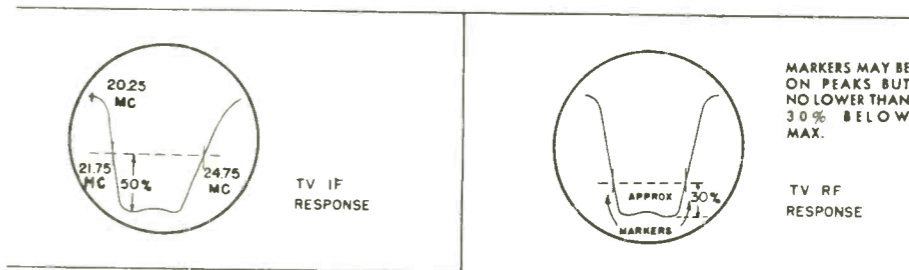
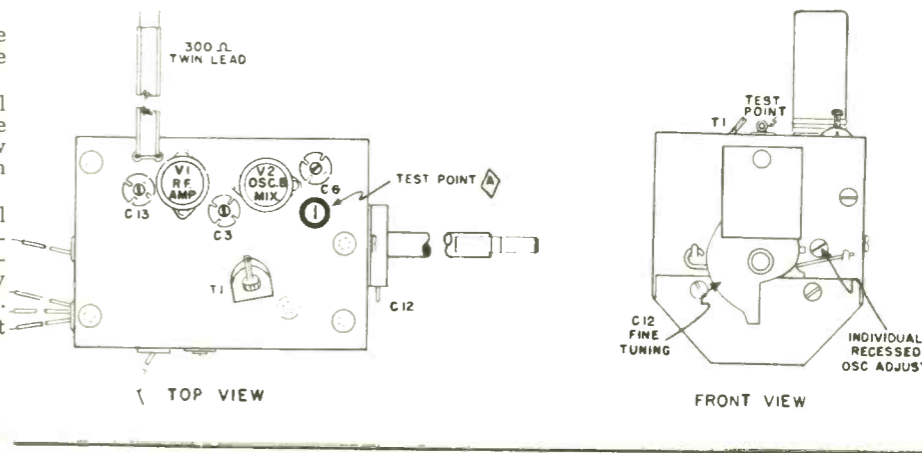

FIG. 15. RECOMMENDED RESPONSE CURVES
FIG. 16. R.F. TUNER ADJUSTMENT POINTS (STANDARD COIL CASCODE TUNER)
13. Feed I-F Sweep, and observe response on scope. (See Fig. 15.) Use marker frequencies 20.25, 21.75 and 24.75 MC.
14. If response does not approximate that shown in Fig. 15, repeat steps 4 to 9, making sure that frequencies are precise, and that the Signal Generator output voltage is kept low. Continue with steps 10 to 13. A slight touch-up of individual slugs may be required to approximate the recommended curve of Fig. 15.
3. Connect vertical amplifier of Oscilloscope through a 10,000 ohm ½ w. resistor to Test Point (A) fig. 16.
7. Observe response curve on Scope. If necessary adjust C3, C6, or C13 (See fig. 16) so that response curve corresponds approximately to that shown in fig. 15 and has maximum gain.
3. Connect vertical amplifier of Oscilloscope to R29, 4.7K diode load resistor Test Point (B).
8. Observe response curve and adjust C12 (Fine Tuning, see fig. 16) for Zero-beat with 24.75 marker. Zero-beat is indicated by an unmistakable break-up of the observed response curve.
- c) Place a non-metallic screwdriver through the opening marked 'Individual Recessed Osc. Adjustment', fig. 16, and adjust oscillator coil zero-beat with 24.75 mc marker on response curve.